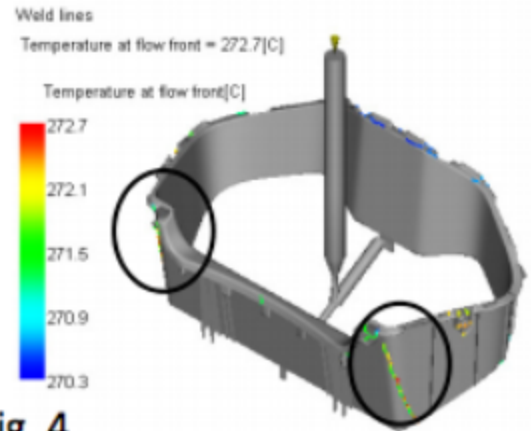

Fig. 4
- By doing these changes in design we achieved to move the weld line to non visible area as shown in fig. 4.